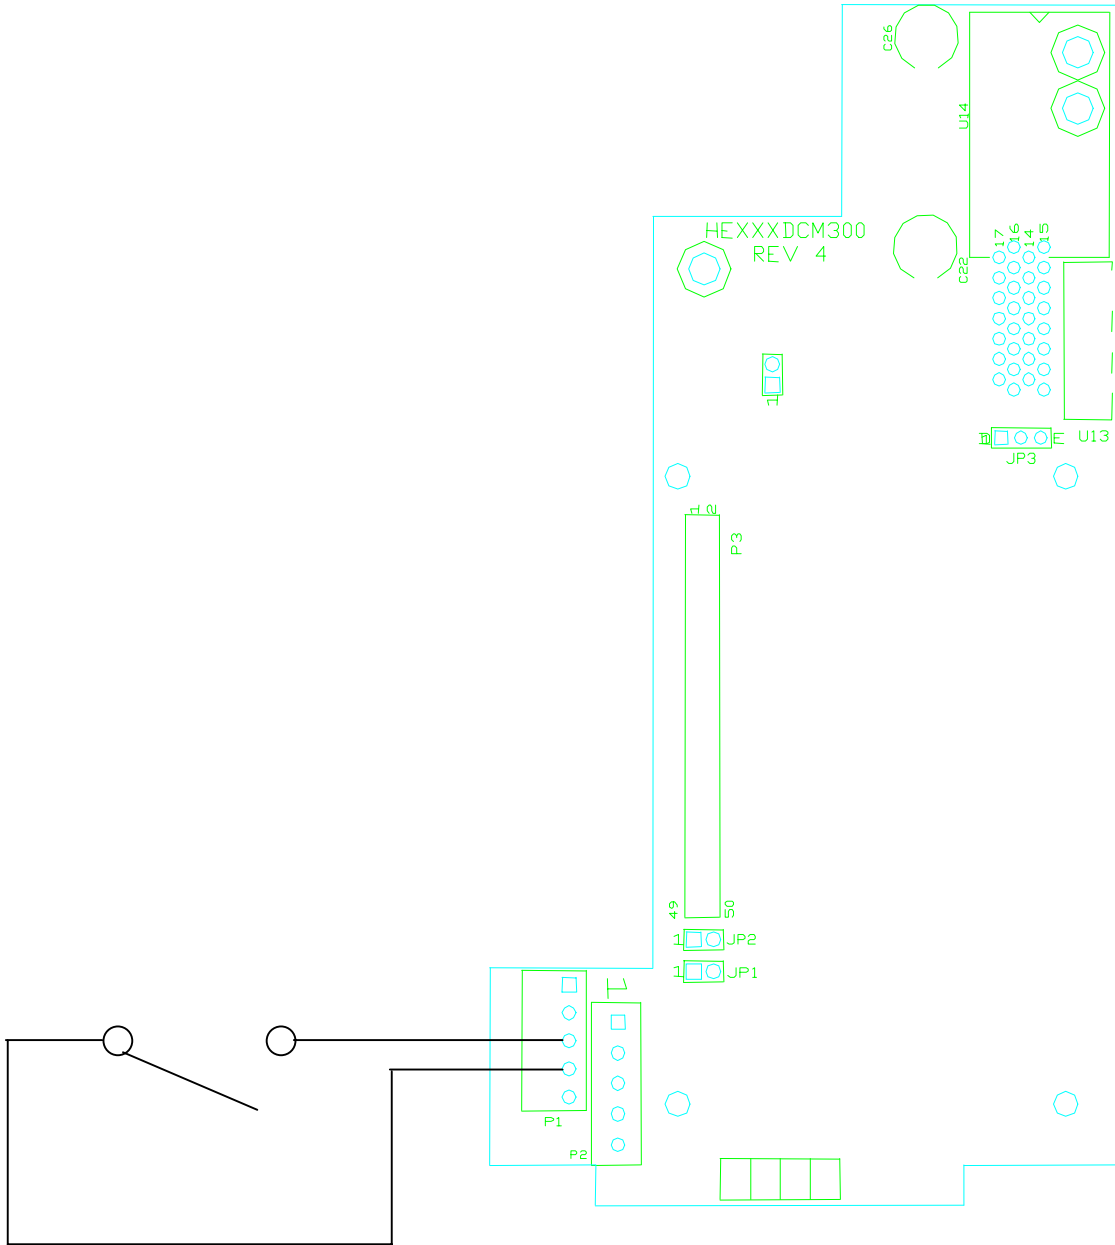

Figure 4.2 – Switch for Terminals 3 and 4
4. Terminals 3 and 4 on P1 of the option card must be jumpered together. This can be accomplished with a short piece of copper wire, alligator clip jumper wire, a permanently mounted switch, etc. (See Figure 4-2 on the following page). If a permanently mounted switch performs this function, place the switch in the CLOSED position.
8. Remove the jumper from option card terminals 3 and 4 on P1. If a permanently mounted switch performs this function, place the switch in the OPEN position (See Figure 4-2 on the following page).